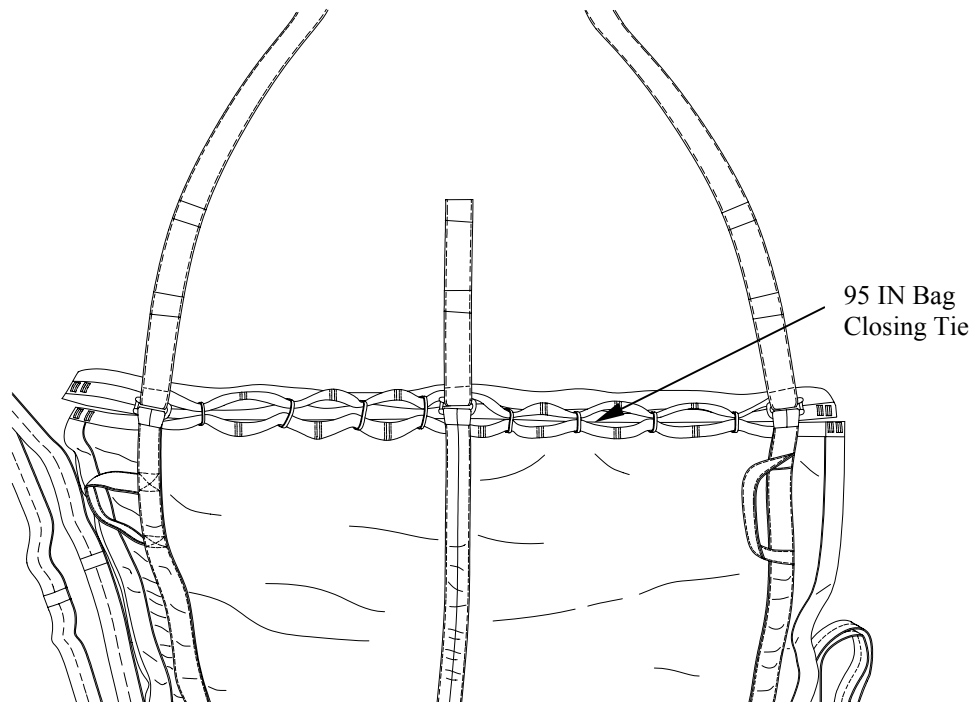

Figure 10. Extraction Line Bag Closed.
- d. Using the running end of the 95-inch closing tie, lace panels closed, working from bottom to top and left to right, forming half hitches between closing loops. Secure running end of bag closing tie with three alternating half hitches and an overhand knot in the running end. Trim excess (figure 10).